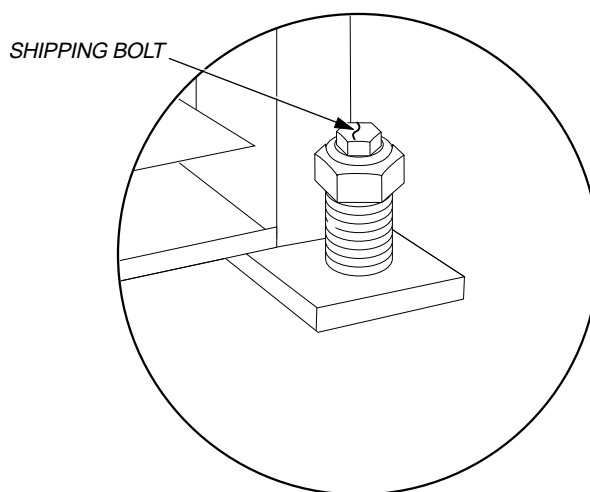

Figure 4-2 Remove Shipping Bolts
4. Unbolt the each component from the wooden shipping skid using a 3/4-inch socket (see Figure 4-2).